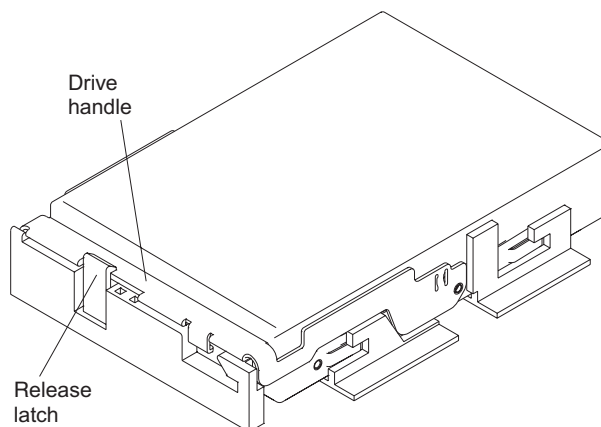

Figure 75. Locking the drive in place
- c. Lower the drive straight down; then, rotate the drive handle down until the drive snaps into place under the drive release lever. See Figure 75.